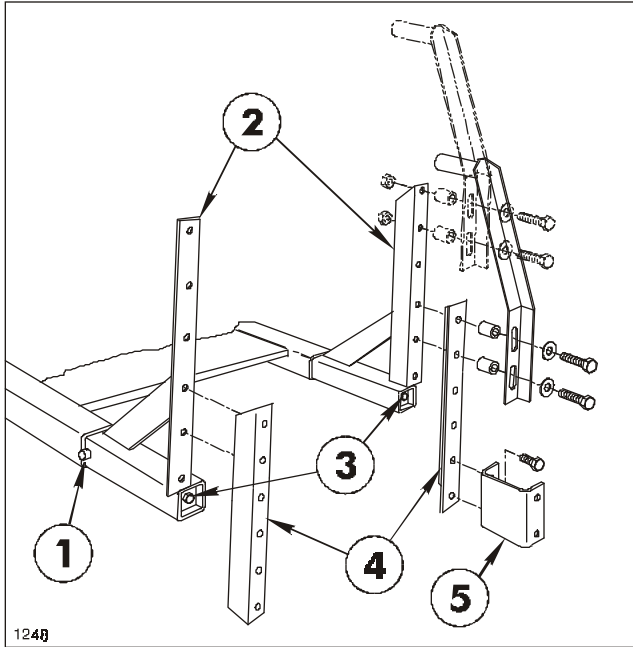

FIG. 10
1. Apply a heavy coating of grease to the tubes of the two Boom Mount Assemblies and insert them into the Vehicle Frame until Stop Pin bottoms out against Vehicle Frame. (See FIG. 10.)
3. Attach the (2) "U"-shaped Boom Mounting Brackets to the proper holes in the Boom Mount uprights or Boom Angles with (4) 1/2" x 1-1/4" cap screws, and lock nuts. (See FIG. 10 & 11.)
4. Install the (2) Boom Hold-In Assemblies to the top of the Boom Mount uprights or Boom Angles using (4) 1/2" x 1-1/4" cap screws, flat washers, spacer tubes and lock nuts. See FIG. 10 & 11.